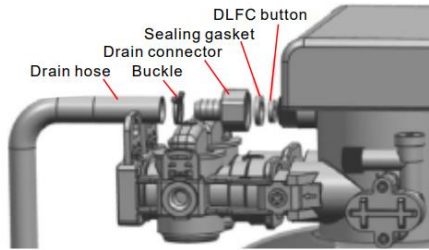

Figure 1-4A
4. Install Drain Pipeline (Refer to Figure 1-4A, 1-4B)